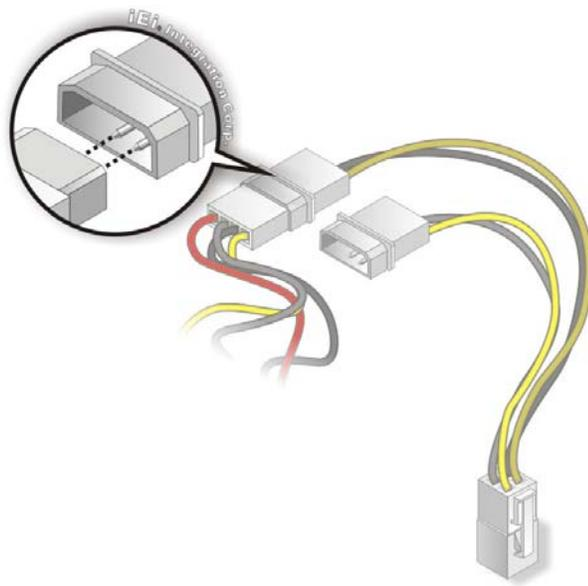

Figure 4-17: Connect Power Cable to Power Supply
Step 3: **Connect Power Cable to Power Supply.** Connect one of the 4-pin (1x4) Molex type power cable connectors to an AT power supply. See Figure 4-17.